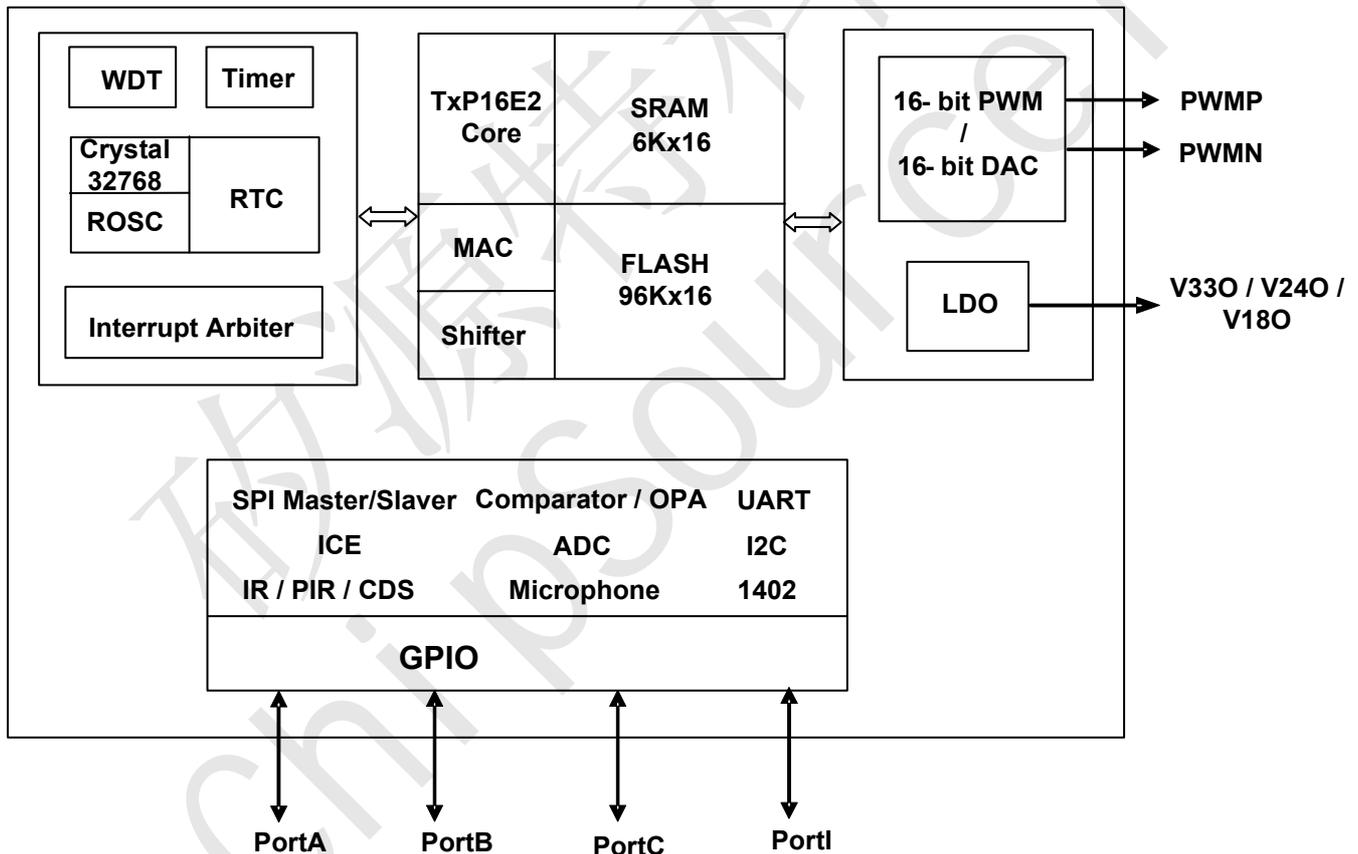

Figure 4.1
As shown in the block diagram in Figure 4.1, the TxP16E2 is a 16-bit data width processing capability and all instructions are operated in one cycle except parameter data ROM(PM) access. The TxP16E2 not only provides general arithmetic such as addition, subtraction, shifter, normalize, and other logical operations, but it also involves circular buffer operations for complexity digital signal processing.